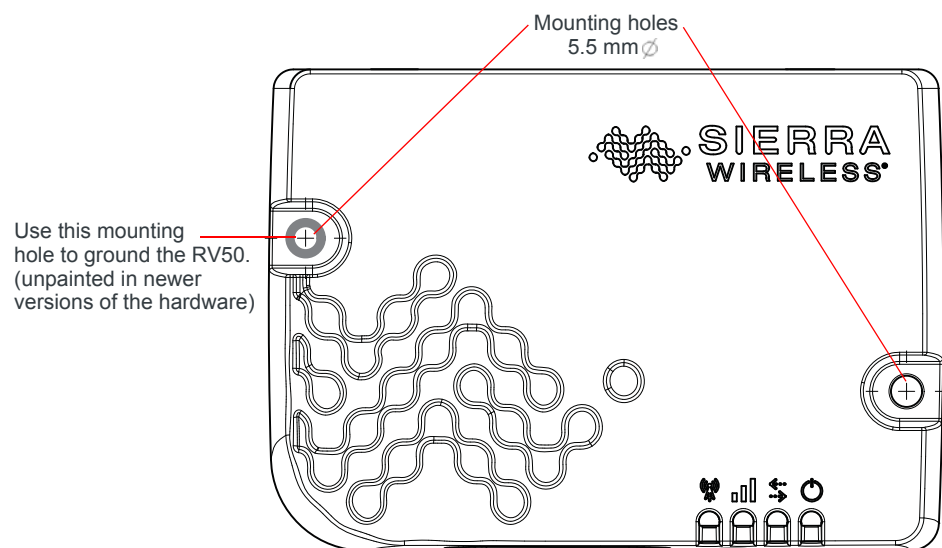

Figure 3-4: Mounting and Grounding the RV50
The RV50 has 2 mounting holes, as shown in Figure 3-4. Use the mounting screws and washers that came with the RV50 to secure it in place.
- Connect one end of a short 18 AWG or larger gauge wire to the unpainted upper left mounting hole (see Figure 3-4) and connect the other end to the system ground reference or (if mounted in a vehicle) the vehicle chassis.